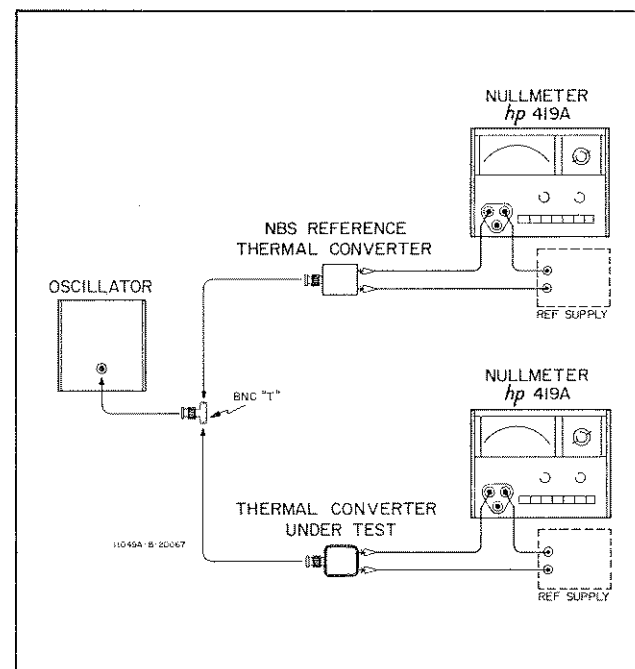

Figure 6. Thermal Converter Calibration
24. Figure 6 shows the setup for calibrating a thermal converter to an NBS calibrated reference thermal converter. With this setup, the thermal converter can be calibrated to within  $\pm 0.005\%$  of the reference thermal converter. The following steps describe the calibration procedure.
- b. Connect both thermal converters, both reference supplies, both null meters, and the test oscillator as shown in Figure 6. Keep connections to thermal converters as short as possible.